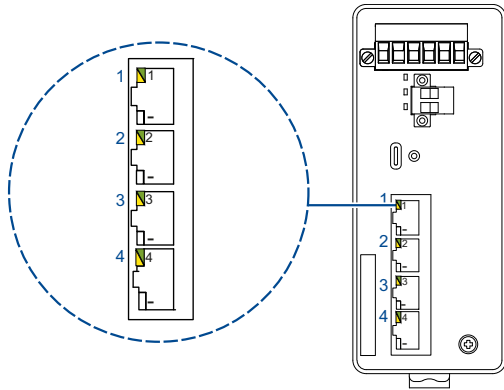

Figure 2: Position of the port display elements on the device variants with 4 × RJ45 sockets
- For the position of the port display elements on the device variants with 4 × RJ45 sockets see figure 2.